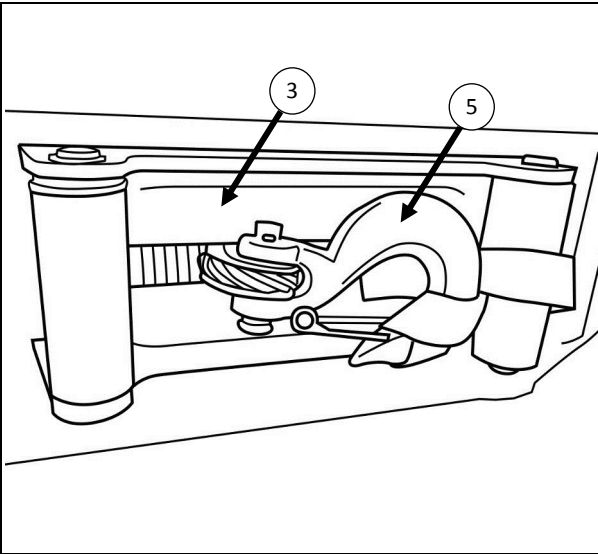

Figure 64: Stow hook on RFL
- Stow hook for winch in front of horizontal rollers as shown in Figure 64 by powering up the Winch (Item 1).